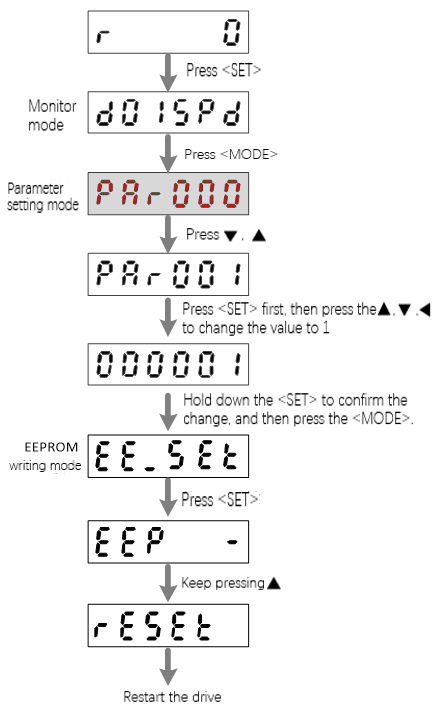

Figure 5-2 Set "Pr001"
1. Set the parameter "Pr001 Control Mode Setting" to "1 Position Control Mode", see figure 5-2.